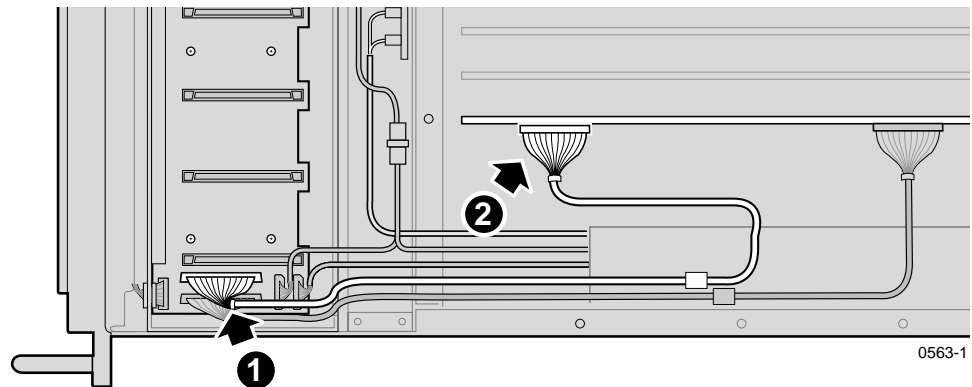

Figure 8. SCSI Cable Installation in a Profile System Without a Slave EDR Board
3. Connect one end of the SCSI cable to the unused connector on the SCSI backplane (❶ in Figure 8).
5. Connect the free end of the cable to the top-front SCSI header connector of the Master EDR board (❷ in Figure 8).